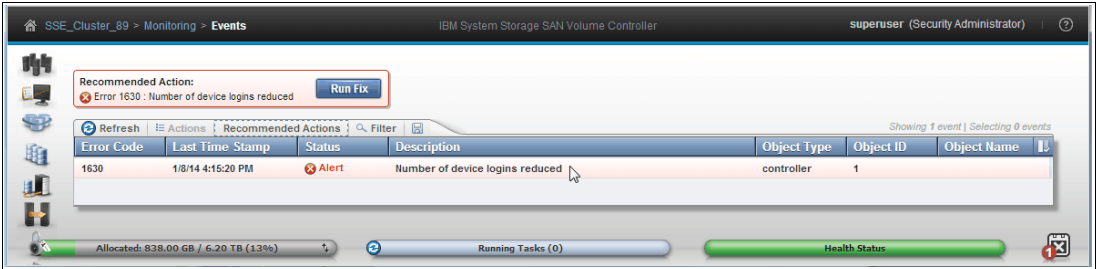

Figure 10-2 Recommended Action panel
For any events in an environment that is implementing Spectrum Virtualize, use the Recommended Actions panel before you try to fix the problem anywhere else. Find the Recommended Actions panel by clicking **Monitoring** → **Events** → **Recommended Actions** in the Spectrum Virtualize Console GUI, as shown in Figure 10-2.
1. Check the Recommended Actions panel by clicking **Monitoring** → **Events** → **Recommended Actions**, as shown in Figure 10-2 on page 342.